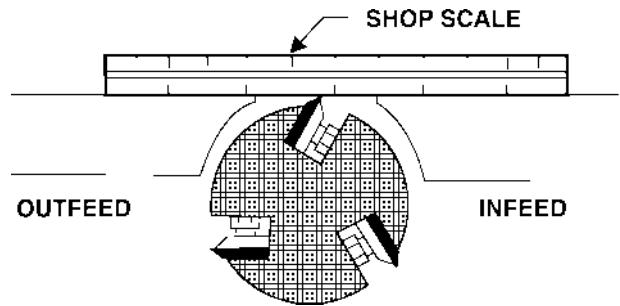

FIGURE 20
2. Place a shop scale across the infeed and outfeed tables, as shown in Figure 20.